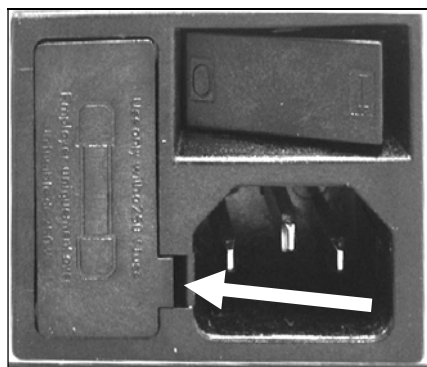

Fig. 56: Fuse container in stand base. Arrow: opening flap.
The fuse container is located on the rear side of the stand base, adjacent to the mains connector (Fig. 56).
- Insert a screwdriver into the opening marked in Fig. 56 and pull out the fuse container.